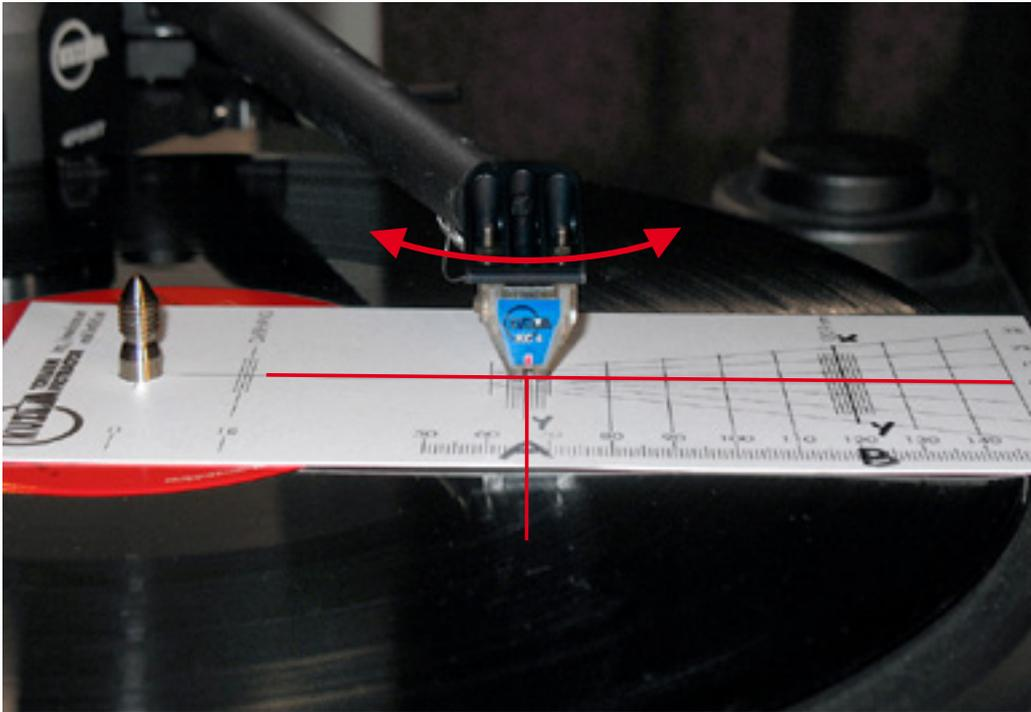

Fig. 27. Alignment at intersection A (inner null line: 'Y-X' and zero line)– cartridge rotation
1. Alignment at intersection A Fig. 27 & 30
3. Repeat alignment at intersection A *Fig. 27*
Again place the tip (stylus) precisely at intersection A. If the cantilever is not parallel with the 'Y–X' line, then the body of the cartridge will have to be again rotated slightly and then checked again at B. Fig. 27.
5. Repeat alignment at intersection A *Fig. 27*
- a) **A:** Put the stylus tip at the intersection A of zero line and 'Y-X' line and, by cartridge body rotation, align the cantilever along the 'Y-X' line. Fig. 27 & 30